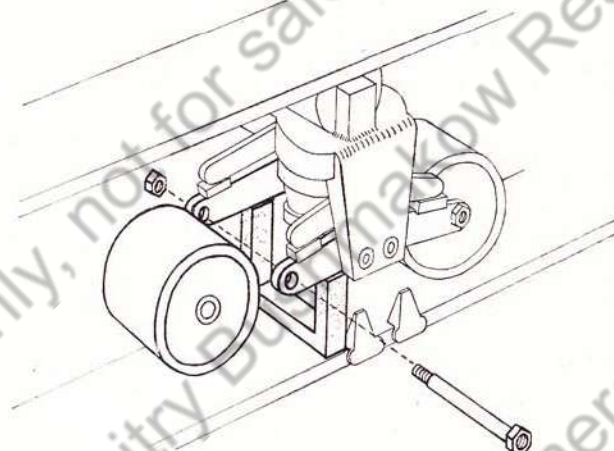

FIGURE 50.—Removal of bogie wheel.
(2) Remove the cotter pin and nut on the back end of the bogie wheel gudgeon (fig. 50).
(3) Remove gudgeon with slide-hammer gudgeon-puller. If it is too tight, use the screw type gudgeon-puller. Care should be taken not to damage the Woodruff key, used to prevent the spindle from turning, or the thread on the end of the spindle.
(4) Install in reverse order; when replacing bogie spindle or gudgeon be sure that it is well oiled.
*e. Replacing wheel bearings and oil seals.*—(1) Remove spacers with oil seals and drive out bearings and spacer with copper drift.